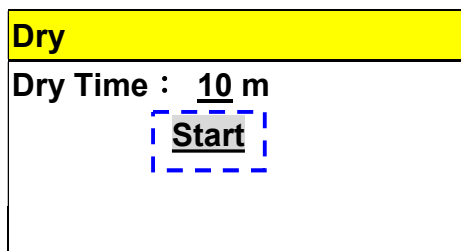
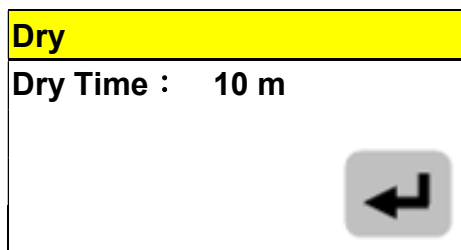

Figure 75
Figure 76
- E. Press  or  button to move the cursor to the "Start" (Figure 75), change the dry time, and then press  button to confirm dry time, as shown in Figure 76.